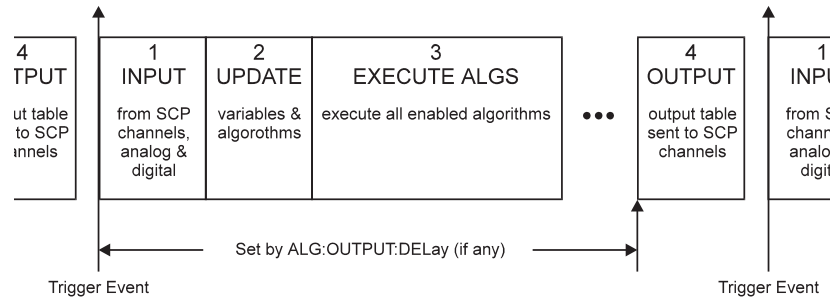

Figure 6-1: Updating Variables and Algorithms
- The algorithm output statements (e.g. O136 = Out_val) DO NOT program outputs when they are executed. Instead, these statements write to an intermediate Output Channel Buffer which is read and used for output AFTER all algorithms have executed AND the algorithm output delay has expired (see Figure 6-1). Also note that not all outputs will occur at the same time but will take approximately 10 μs per channel to write.
- Variables and algorithms can be accepted during Phase 1-INPUT or Phase 2-UPDATE in Figure 6-1 when INIT is active. All writes to variables and algorithms occur to their buffered elements upon receipt. However, these changes do not take effect until the ALG:UPD:IMM command is processed at the beginning of the UPDATE phase. The update command can be received at any time prior to the UPDATE phase and will be the last command accepted. Note that the ALG:UPD:WINDow command specifies the maximum number of
ALGORITHM:UPDATE:CHANNEL <dig_chan> This command is used to update variables, algorithms, ALG:SCAN:RATIO, and ALG:STATE changes when the specified digital input level changes state. When the ALG:UPD:CHAN command is executed, the current state of the digital input specified is saved. The update will be performed at the next update phase (UPDATE in Figure 6-1), following the channel's change of digital state. This command is useful to synchronize multiple VT1419As when it is desirable for all variable updates to be processed at the same time.
- The duration of the level change to the designated bit or channel MUST be at least the length of time between scan triggers. Variable and algorithm changes can be accepted during the INPUT or UPDATE phases (Figure 6-1) when INIT is active. All writes to variables and algorithms occur to their buffered elements upon receipt. However, these changes do not take effect until the ALG:UPD:CHAN command is processed at the beginning of the UPDATE phase. Note that the ALG:UPD:WINDow command specifies the maximum number of updates to do. If no update command is pending when entering the UPDATE phase, then this time is dedicated to receiving more changes from the system.